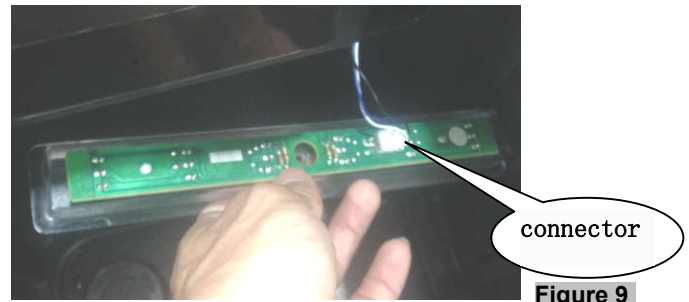

Figure 9
2. Unplug the led light connector. (figure 9)